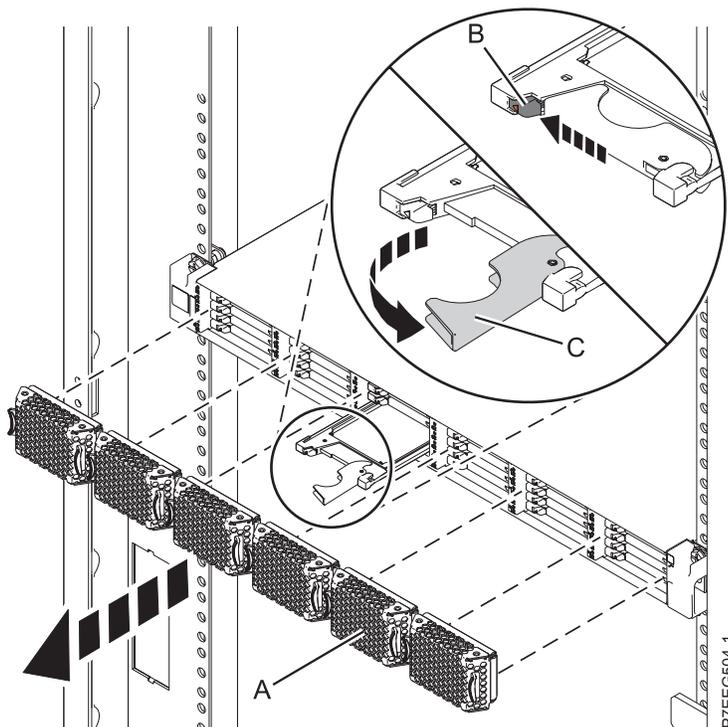

Figure 23. Removing the solid-state drive from the ED/R1 PCIe storage enclosure
1. Pull off the bezel (A) that covers the slot containing the solid-state drive.
2. Slide the release latch (B) over gently to unlock the drive handle. See Figure 23.